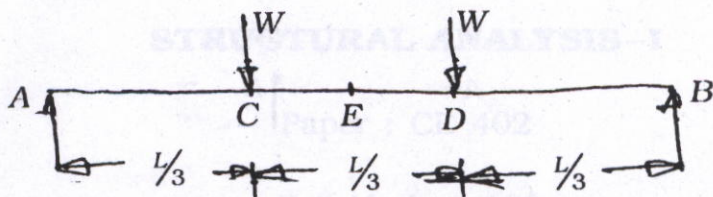

fig. 05
6. Determine the rotation at supports and deflection at mid-span and under the loads in the simply supported beam as shown in fig. 05. 20